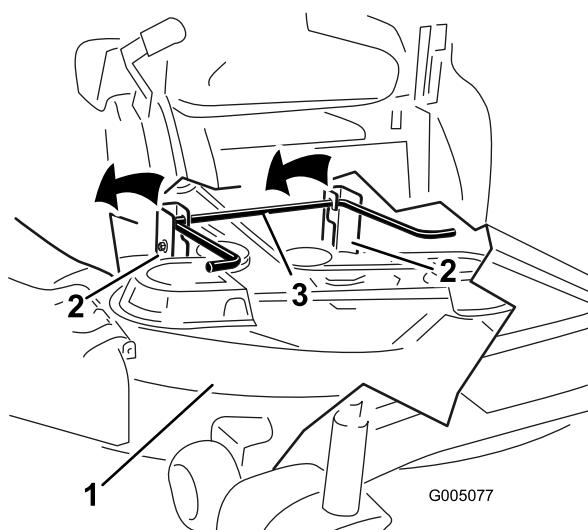

Figure 69
6. Lift the mower deck and hanger brackets clear of the rear lift rod and lower the mower carefully to the ground (Figure 69).
5. Lift the rear of the mower deck and guide the hanger brackets over the rear lift rod (Figure 69).